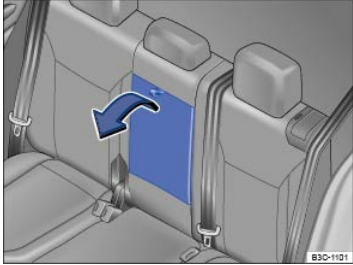

Fig. 91 Folding down the rear center armrest (arrow).
There may be a fold-down armrest in the backrest of the second row seat bench ⇒ Fig. 91.
- To *fold down*, pull the loop in the direction of the arrow ⇒ Fig. 91.